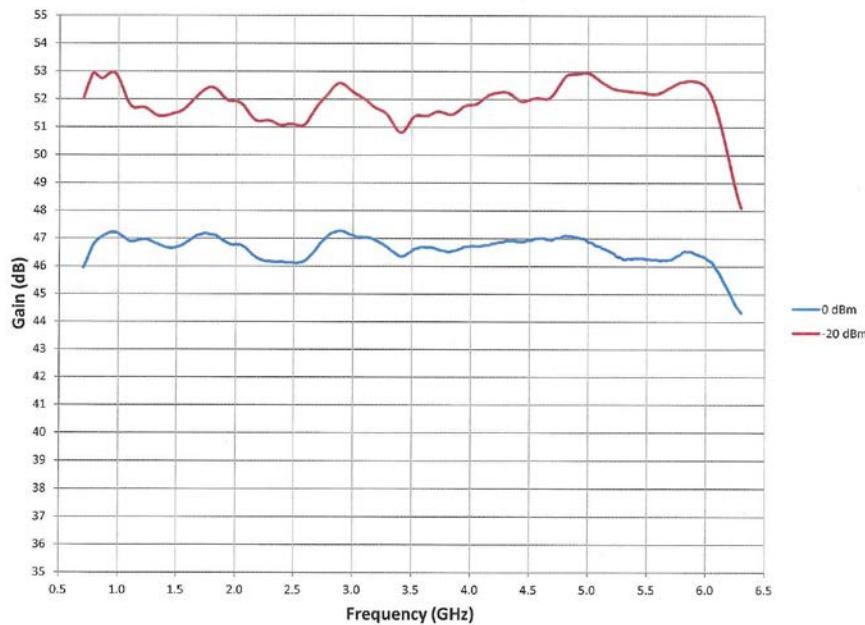

Figure 4-1. Typical Response at 0 dBm Input and -20dBm Input
1. The Model 30S1G6's typical gain response at 0 dBm input and -20 dBm input is shown in Figure 4-1. The actual gain may vary considerably from that shown in Figure 4-1 but should be ≥ 41.8 at 0dBm input and $\geq 0V$ at -20 dBm input. *NOTE: If the overall gain is low, the amplifier chain can be separated at the input of the A3 Quad Amplifier.*